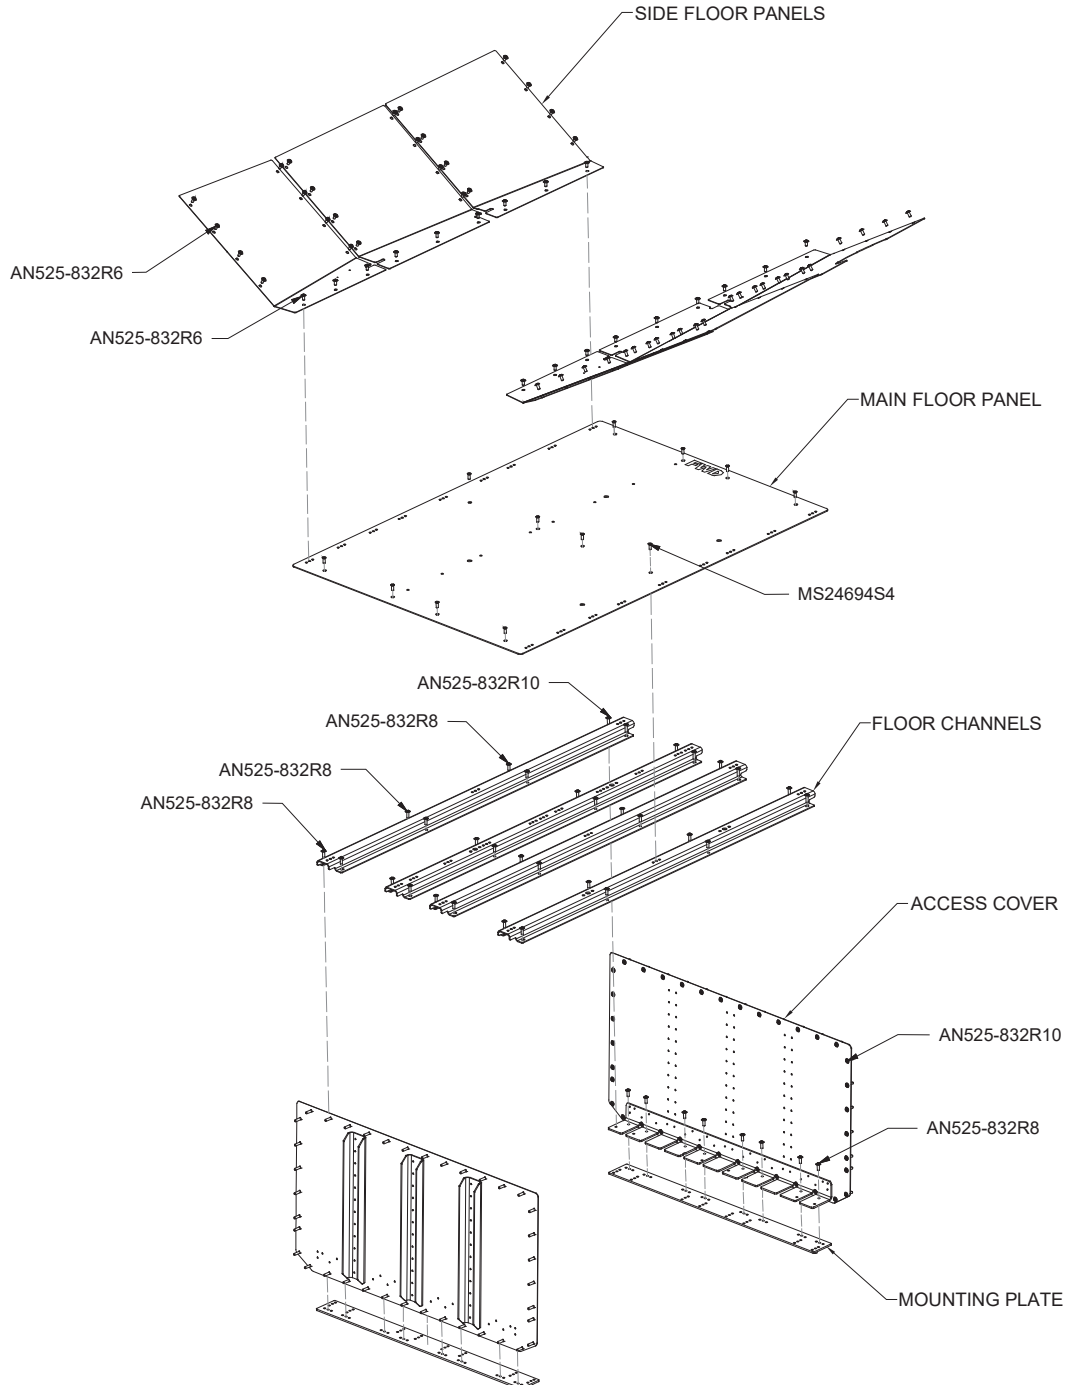

Figure 1
1. Reinstall the forward access cover, mounting plate, floor channels, and modified baggage floor into the float per Figure 1.